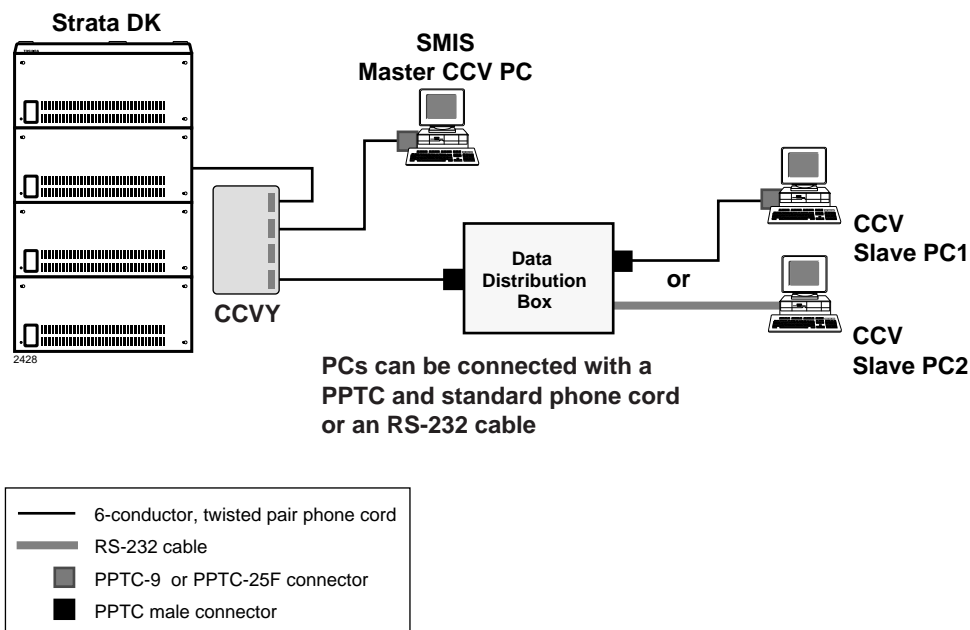

Figure 11-21 Connecting Up to Three CCV PCs (Less than 50' From the DK)
1. Install the CCVY connector into the Strata DK MIS port (RSIU, RSIS, RMDS, or PIOU PCBs). See Figure 11-21.
4. Make sure that the Data Distribution Box is strapped for DTE operation for every output port (8). By using multiple data broadcast units, as many PCs as desired can be used, provided each one has the Call Center Viewer application and key installed.